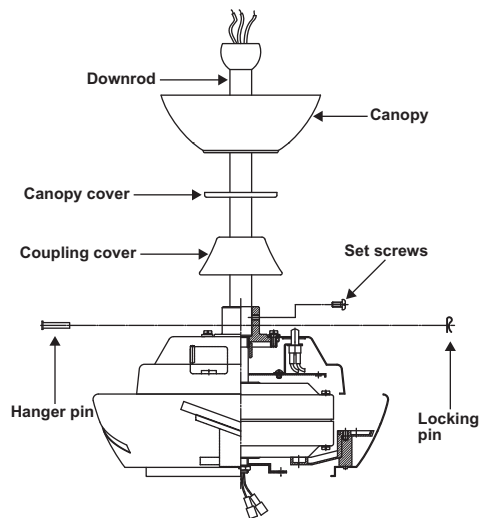

Figure 7
Step 6. Route wires exiting from the top of the fan motor through the coupling cover, canopy cover and canopy, then through the ball/downrod. (Fig. 7)
Step 7. Align the holes at the bottom of the downrod with the holes in the collar on top of the motor housing (Fig.7). Carefully insert the hanger pin through the holes in the collar and downrod. Be careful not to jam the pin against the wiring inside the downrod. Insert the locking pin through the hole near the end of the hanger pin until it snaps into its locked position, as noted in the circle inset of Fig. 7.
Step 8. Tighten two set screws on top of the fan motor firmly. (Fig. 7)